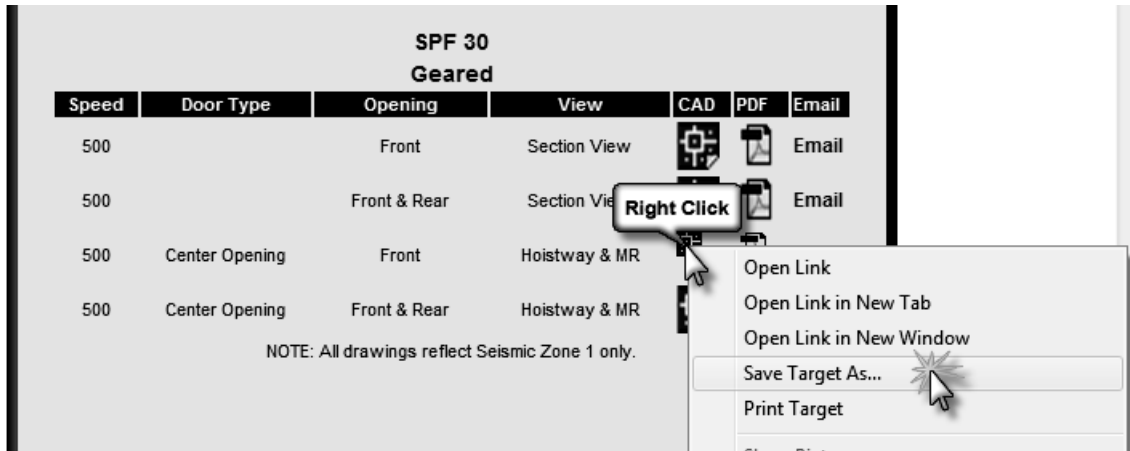

FIGURE 4-3.4 File Download dialog
- Click the **Save Target As...** command (Figure 4-3.4) and browse to your *Documents* or *My Documents* folder.